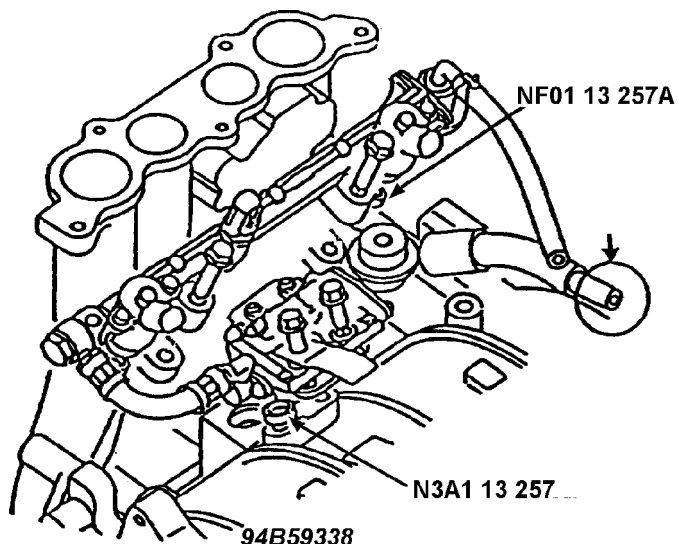

Fig. 59: Installing Primary & Secondary Fuel Distributors to Engine
31. Install the primary fuel distributor and the secondary fuel distributor to the engine. See Fig. 59.
32-1. Apply adhesive to the hose end on the primary fuel distributor outlet side indicated by the arrow in Fig. 59. To apply adhesive see step 27-1.